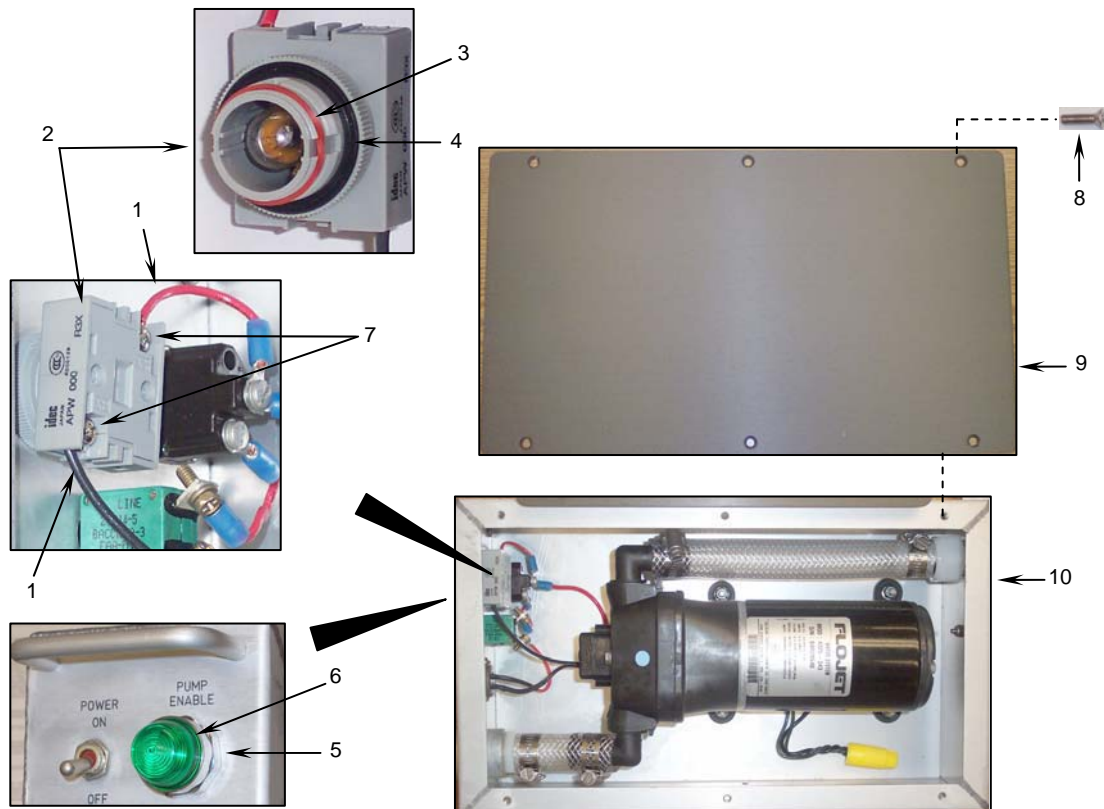

Figure 5. Installing the Sink Fill Pump Assembly Indicator Light Assembly.
- a. Connect the two wires (**Figure 5, Item 1**) to the terminals at the back of the indicator light assembly (**Figure 5, Item 2**). It is not necessary to match a specific wire to a specific terminal.
- b. Ensure that the lens gasket (**Figure 5, Item 3**) and the light assembly gasket (**Figure 5, Item 4**) are both in place on the new indicator light assembly, then insert the new indicator light assembly (**Figure 5, Item 2**) into the fill pump enclosure (no specific orientation is required).
- c. Secure the indicator light assembly to the enclosure with the ring nut (**Figure 5, Item 5**).
- d. Using your fingers, thread the green lens (**Figure 5, Item 6**) back onto the front of the indicator light assembly as tightly as possible.
- e. Coat the wire terminal connections (**Figure 5, Item 7**) at the back of the indicator light assembly with corrosion preventative sealant.
- f. Apply sealing compound to the six flat head machine screws (**Figure 5, Item 8**) and secure the fill pump cover (**Figure 5, Item 9**) to the sink fill pump assembly enclosure (**Figure 5, Item 10**) using the six screws.